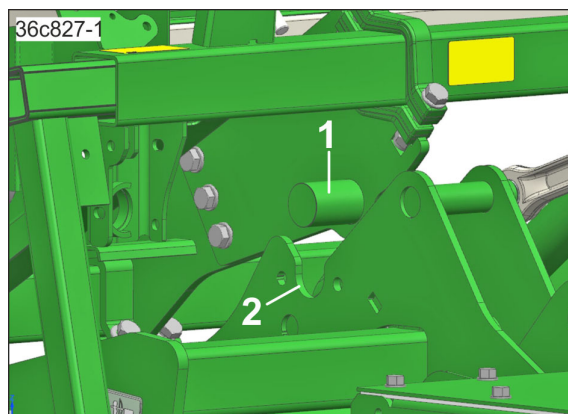

Fig. 128
4. Pick up the seed drill bearing (Fig. 128/1) with the soil tillage implement catch hooks (Fig. 128/2).